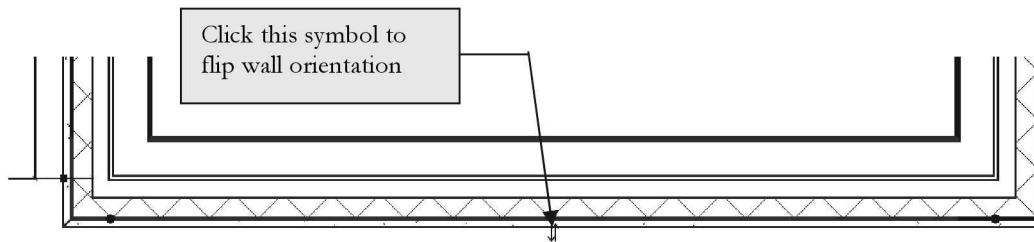

FIGURE 5-2.16 Selected Wall
31. Select **Modify** (or press **Esc**); select a wall. You will see a symbol appear that allows you to flip the wall orientation by clicking on that symbol (Figure 5-2.16).